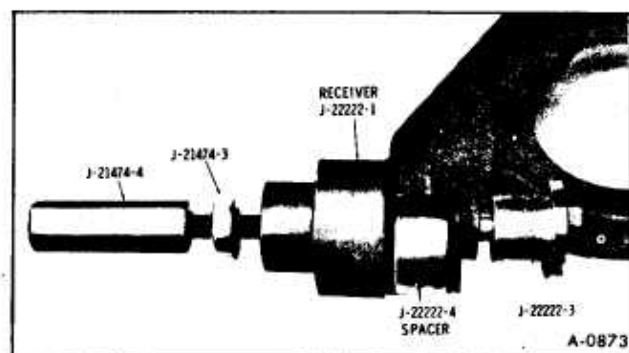

Figure 19—Removing Upper Control Arm Bushing
4. Move control arm out of frame brackets and attach bushing removal tools as shown in Figure 19.